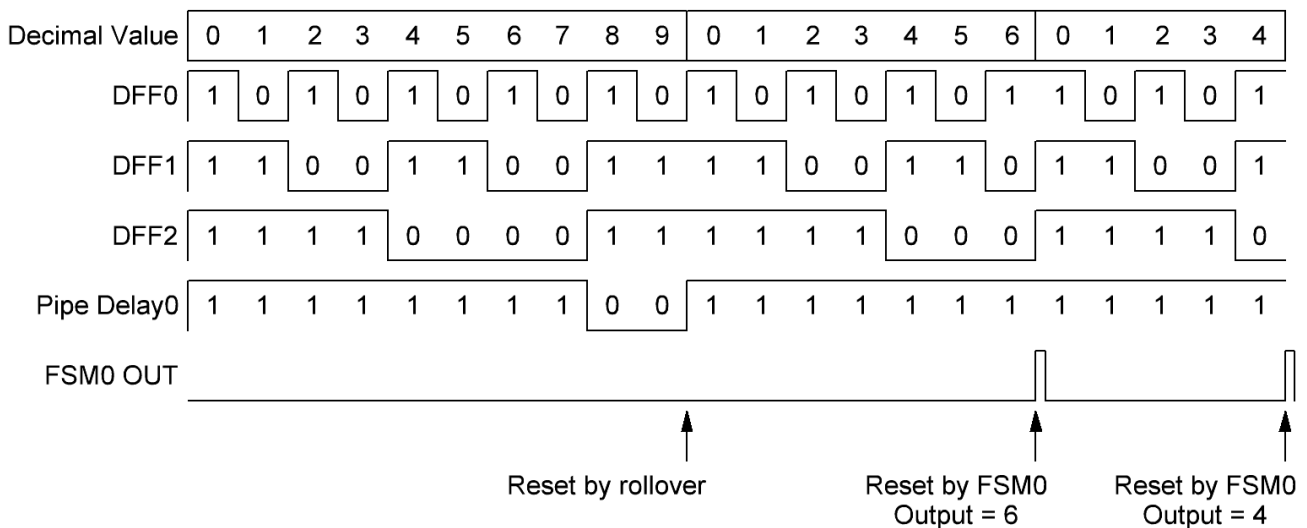

Figure 3. FDC Timing Diagram
The next circuit utilizes two 4-bit decimal counters (DC) to count up to the current readings that will be shown on the LED. The tenths digit (0.1A) DC is called First Decimal Counter (FDC) and includes DFF0, DFF1, DFF2, and PIPE DELAY0. The ones digit (1.0A) DC is called Second Decimal Counter (SDC) and includes DFF6, DFF7, DFF8, and PIPE DELAY1. FDC counts up the tenths digit at a rate of 23ms per digit. It counts 10 times from 1111_2 to 0110_2 as shown in figure 3, which shows FDC's timing diagram with respect to the decimal value it represents as well as FSM0 out.
SDC is used to count the ones digit at a rate of 230ms ($23ms \times 10$). It counts 4 times from 1111_2 to 1100_2 . The FDC increments the current display every 100mA and the SDC increments the current display every 1A with a maximum value of 3A. The example in figure 3's current reading is 1.6A. The FDC counts through an entire 0 through 9 cycle, then after it resets to 0, SDC increments from 0 to 1. FDC then counts to 6, which is when the FSM0 has finished its count period and the DCs have captured the 1.6A reading.